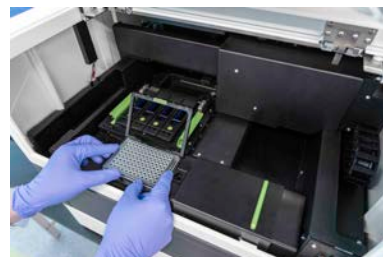

Figure 20: Insert the collection plate onto the plate holder when prompted
2. Insert the collection plate onto the plate holder (see Figure 20).